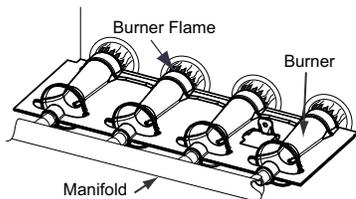

Fig. 66 – Burner Flame
- c. When correct input is obtained, replace caps that conceal gas valve regulator adjustment screws. Main burner flame should be clear blue, almost transparent. See Fig. 66.